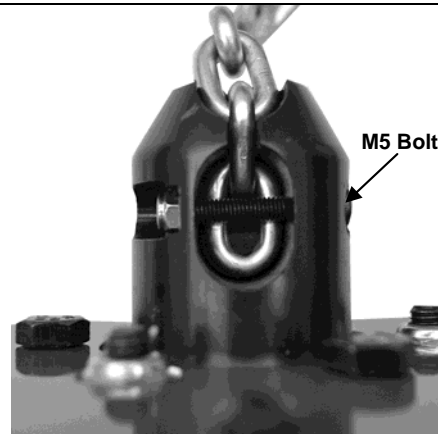

Figure 2-17
- 2) Insert M5 bolt thru chain keeper in front of chain link inside chain keeper. (Refer to Figure 2-17)